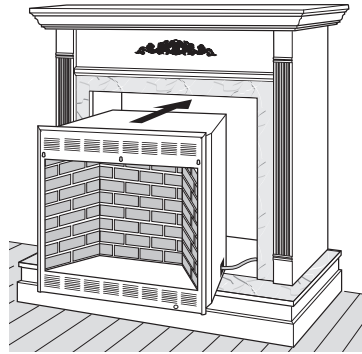

Figure 20 - Inserting Firebox Into Cabinet Mantel
- Carefully insert firebox into cabinet mantel. Be careful not to scratch or damage hearth base, cabinet mantel, or any laminate trim on hearth base. Remove protective material from top of hearth base and from front of firebox (if any). See Figure 20.